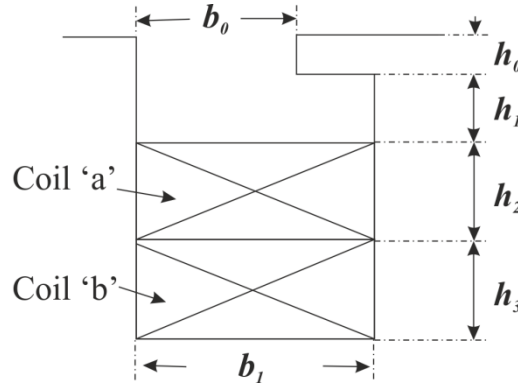

Figure 4 Numbers of turns in the slot for coil 'a' and 'b' are  $N_a$  and  $N_b$ , respectively.
- a. Use analytical techniques to calculate the flux per pole for the motor. (5)
- b. If the rotor has a total of 1532 conductors, connected in two parallel paths by the brushes, calculate the speed EMF constant for the motor and the corresponding no-load speed when operating on a 100V dc supply. (5)
- c. The rotor winding has an effective resistance of  $3 \Omega$ , calculate the stall-torque using a dc supply of 100V supply and show whether or not the motor can tolerate the stall under these conditions without demagnetizing the magnets. (5)
- d. Show graphically the difference between reversible and irreversible demagnetizations. Explain the influence of temperature on the irreversible demagnetization for both Ferrite and NdFeB permanent magnets. (5)
4. For a slot shown in Figure 4, specify any assumptions that need to be made in order to derive analytically the expressions of:
- The coil slot leakage inductance per-unit length for coil 'a' (5)
- The coil slot leakage inductance per-unit length for coil 'b' (3)
- The mutual inductance per-unit length between coils 'a' and 'b' (7)